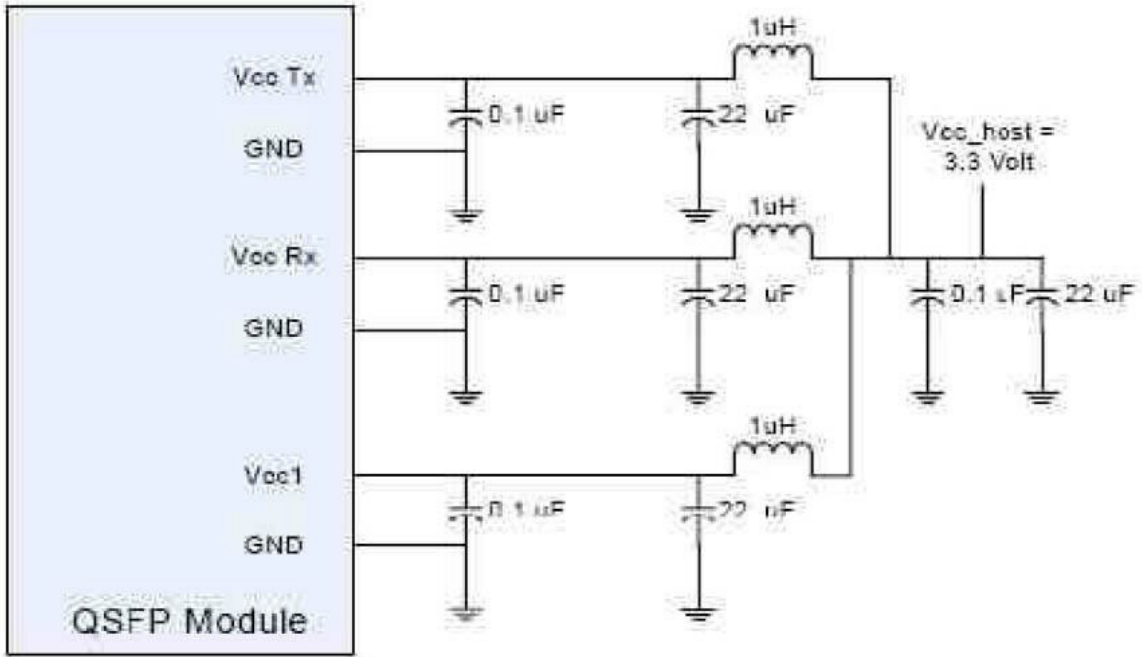

Figure 3. Recommended Power Supply Filter
- 2. VccRx, Vcc1 and VccTx are the receiver and transmitter power suppliers and shall be applied concurrently. Recommended host board power supply filtering is shown in Figure 3 below. Vcc Rx, Vcc1 and Vcc Tx may be internally connected within the QSFP28 transceiver module in any combination. The connector pins are each rated for a maximum current of 1000mA.